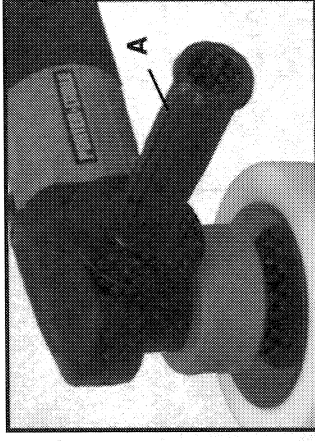

Fig. 2
An auxiliary handle (A), Fig. 2, is furnished with the Polisher. The auxiliary handle may be installed on either side of the front housing to facilitate either right-handed or left-handed operation.